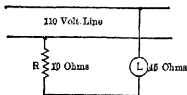

FIG. 25. Lamp and coil in series across a 110-volt circuit.
Now suppose a lamp (L) having 45 ohms resistance is joined in series with the coil (R) across the same circuit of 110 volts as in Fig. 25. It is plain that the lamp and coil now offer a greater resistance to the current than did the